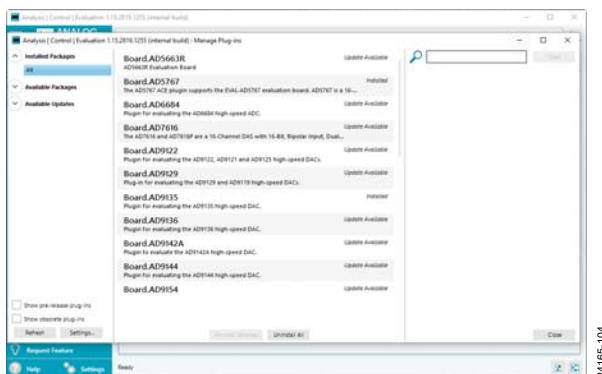

Figure 10. ACE Manage Plug-ins Window
2. In the left pane, click **Plug-in Manager**. The **Manage Plug-ins** window opens (see Figure 10).